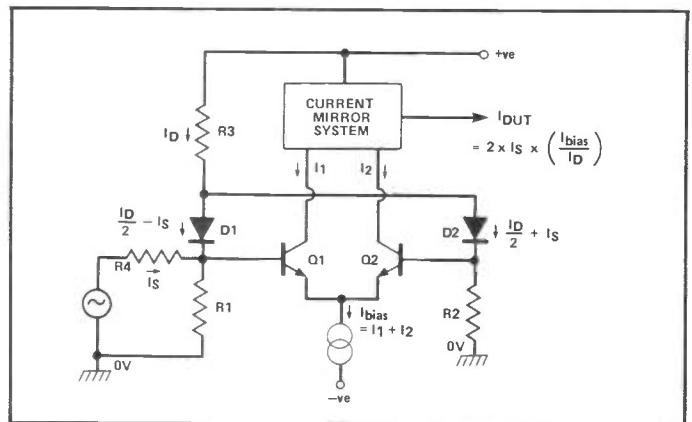

Figure 3. Simplified 'usage' circuit of an LM13600 OTA.
**Figure 3** shows the circuit forming the basis of one of the improved 'second generation' OTAs inside the LM13600. It is almost identical to that of the CA3080, except for the addition of 'linearizing' diodes D1 and D2, which are integrated with Q1 and Q2 and thus have characteristics that are matched to those of the Q1 and Q2 base-emitter junctions. In use, equal low-value resistors, R1 and R2, are wired between the inputs of the differential amplifier and the common supply line, and bias current  $I_b$  is fed to these resistors from the positive supply line via R3 and D1-D2.
The circuit's input voltage is applied via R4, which has a large value relative to R1, and thus generates an input signal current of  $I_s$ . This signal current feeds into R1 and thus generates a signal voltage across R1 which reduces the D1 current to a value of  $(I_b/2) - I_s$ . The  $I_b$  current is, however, constant, so the D2 current rises to  $(I_b/2) + I_s$ . Consequently, the linearizing diodes of the **Fig. 3** circuit apply heavy negative feedback to the differential amplifier and give a substantial reduction in signal distortion. If  $I_s$  is small relative to  $I_b$ , the output signal current of the circuit is equal to  $2 \times I_s \times (I_{bias}/I_b)$ . The gain of the circuit can thus be controlled via either  $I_{bias}$  or  $I_b$ .